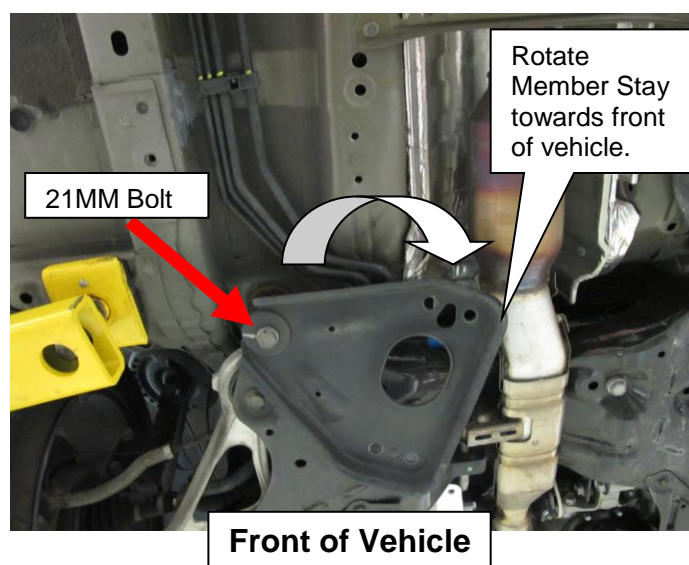

Figure 4
4. Loosen the 21MM front suspension member stay bolt enough to rotate the member stay towards the front of the vehicle (Figure 4).